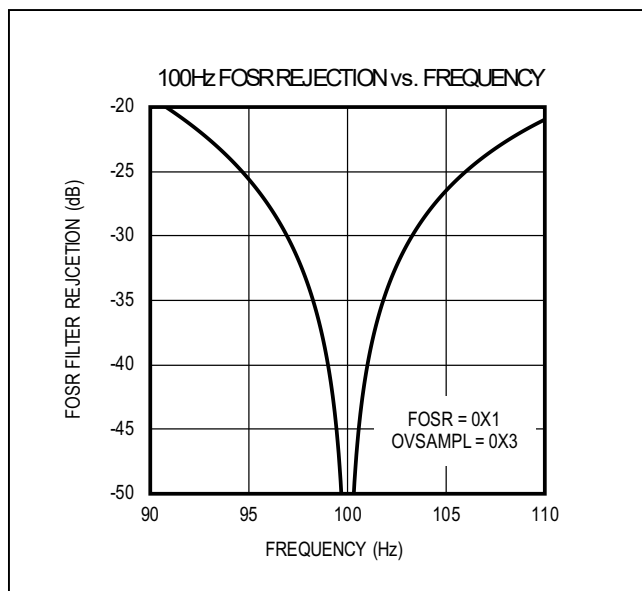
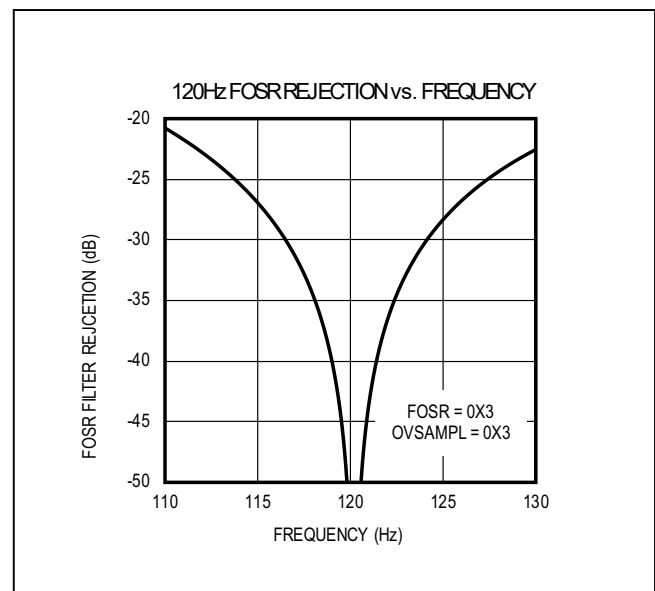

Figure 31. 100Hz Notch Filter
Figure 32. 120Hz Notch Filter
**Note:** The typical notch-filter responses are shown for both 100Hz (Figure 31) and 120Hz (Figure 32), respectively.